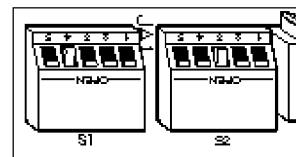

FIGURE 9
Figure 9 shows the factory default setting. It is configured for standard probe calibration with a temperature compensated carbon graphite probe.
4. Place S1-“2” to the closed (down) position for non-standard calibration. See Figure 9.